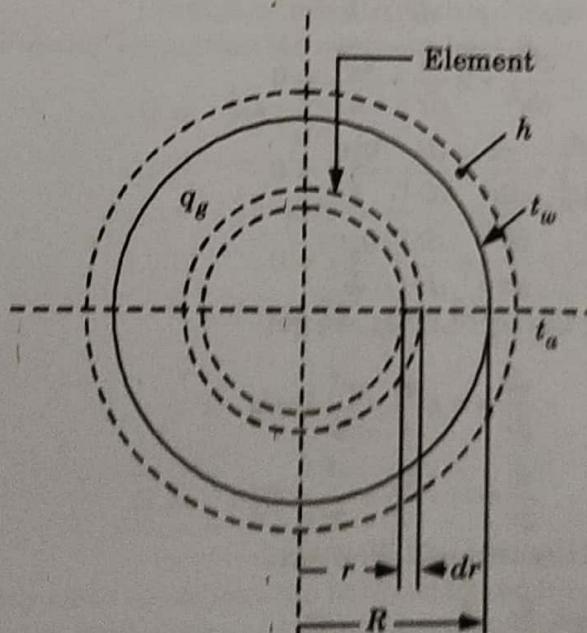

Fig. 1.22.1. Sphere with uniform heat generation.
3. Consider an element at radius r and thickness, dr as shown in Fig. 1.22.1.